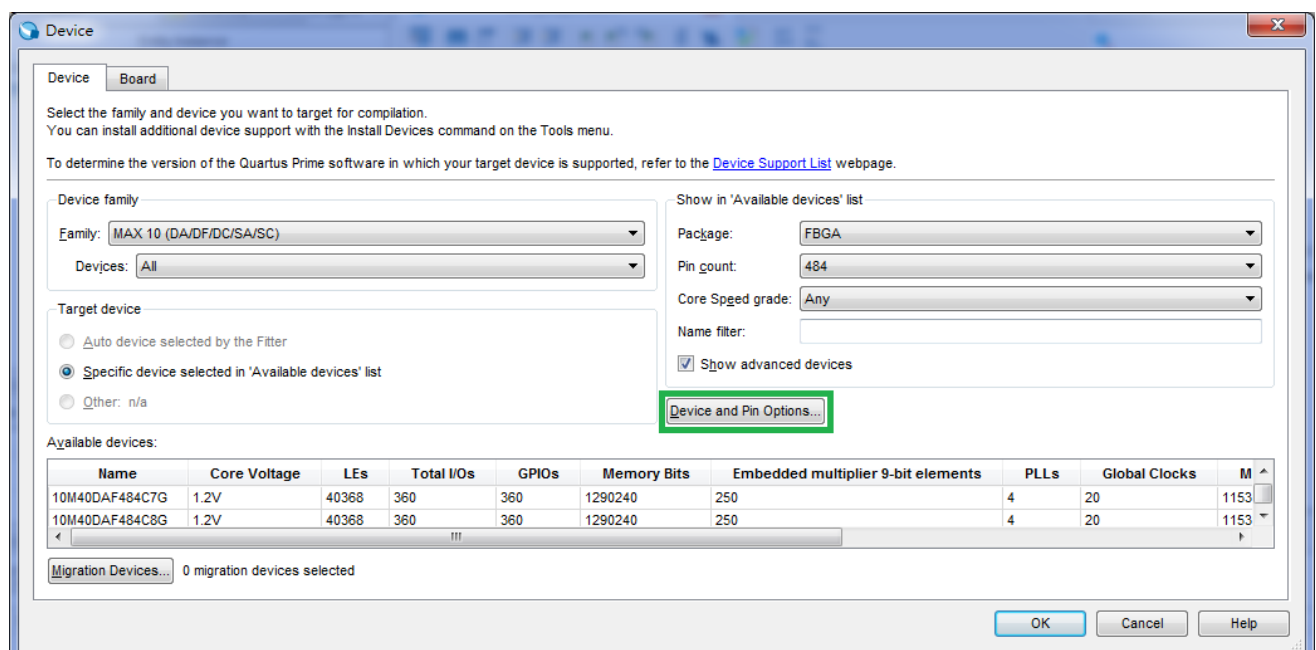

Figure 6-11 Open Device window...
1. Choose **Assignments > Device** to open Device windows shown in **Figure 6-11**.